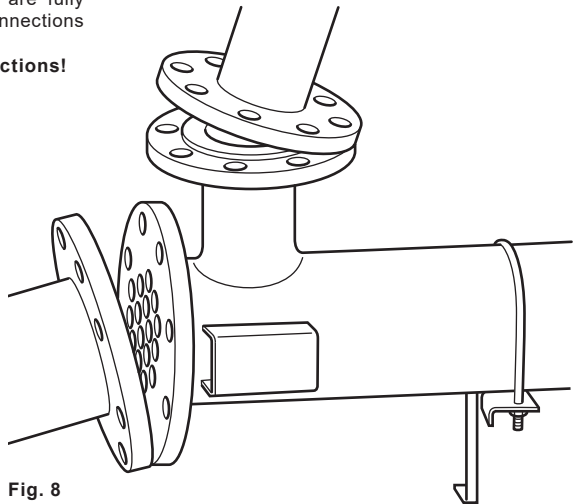

Fig. 8
4.7 Ensure that heat exchangers are suitably situated on a level surface and are fully aligned to any adjoining pipe connections (Figure 8).